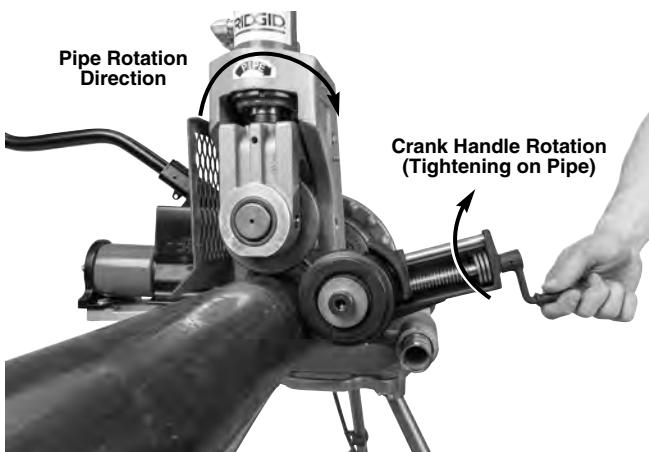

Figure 17 – Stabilizer Positioning
The stabilizer can only be used with the machine REV/OFF/FOR switch in the REV position (pipe rotation marked on groover, *Figure 17*). If used with the machine REV/O-OFF/FOR switch in the FOR position, the pipe will spiral/track out of the groove rolls.
3. Rotate the stabilizer crank handle to bring the roller in contact with the pipe. Rotate the crank handle an additional one (1) turn to preload the roller against the pipe (*Figure 17*). Do not reach across the pipe to adjust the stabilizer.